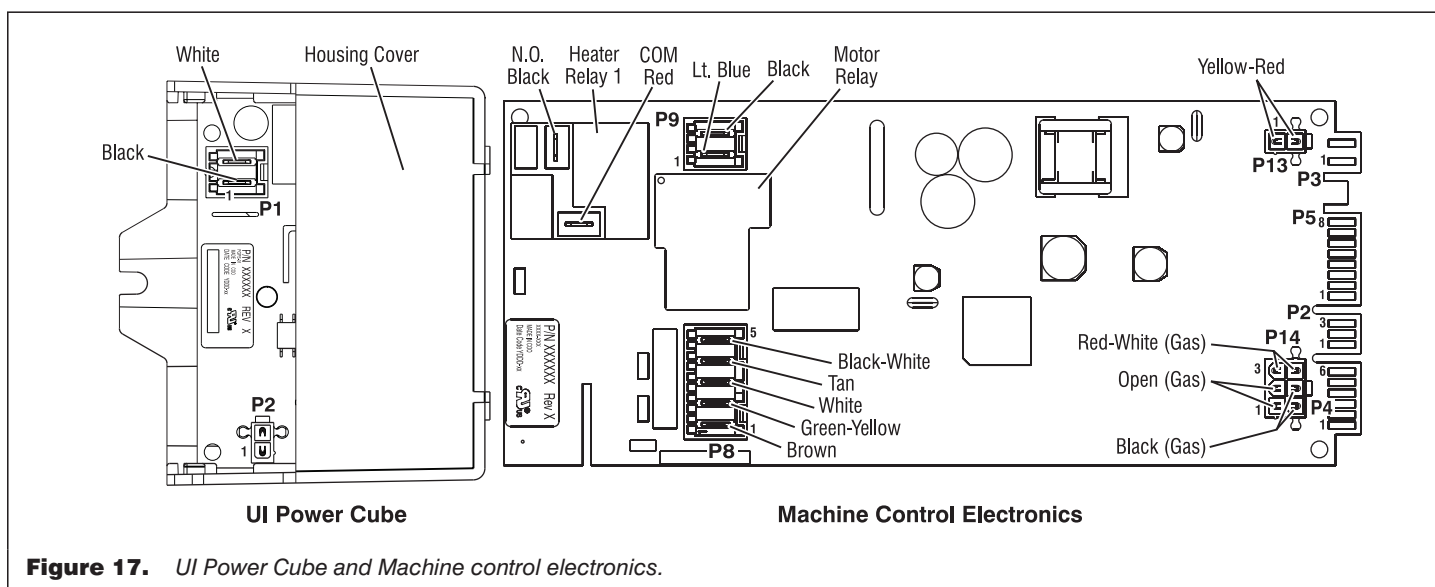

**Figure 18.** Remove the console panel to access the console electronics and housing assembly.
2. Remove the screw that fastens the assembly to the machine control mounting bracket (figure 16), and the two screws that fasten the console assembly to the machine (figure 18).
4. Slide the console up and off of the machine. See figure 18, page 10.
5. The console mounting bracket is fastened to the console front panel with two latches at both sides of the console assembly. Unlatch the bracket gently with a screwdriver while pulling the mounting bracket assembly out. See figure 18, page 10.